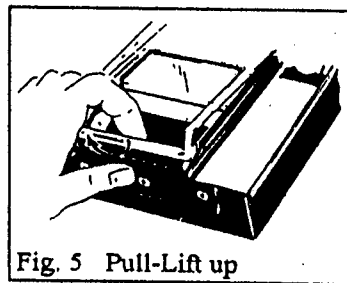

Fig. 5 Pull-Lift up
- a) Remove top cover by pulling bottom edge of frame toward you and lifting. The top cover will come loose, (See Fig. 5).